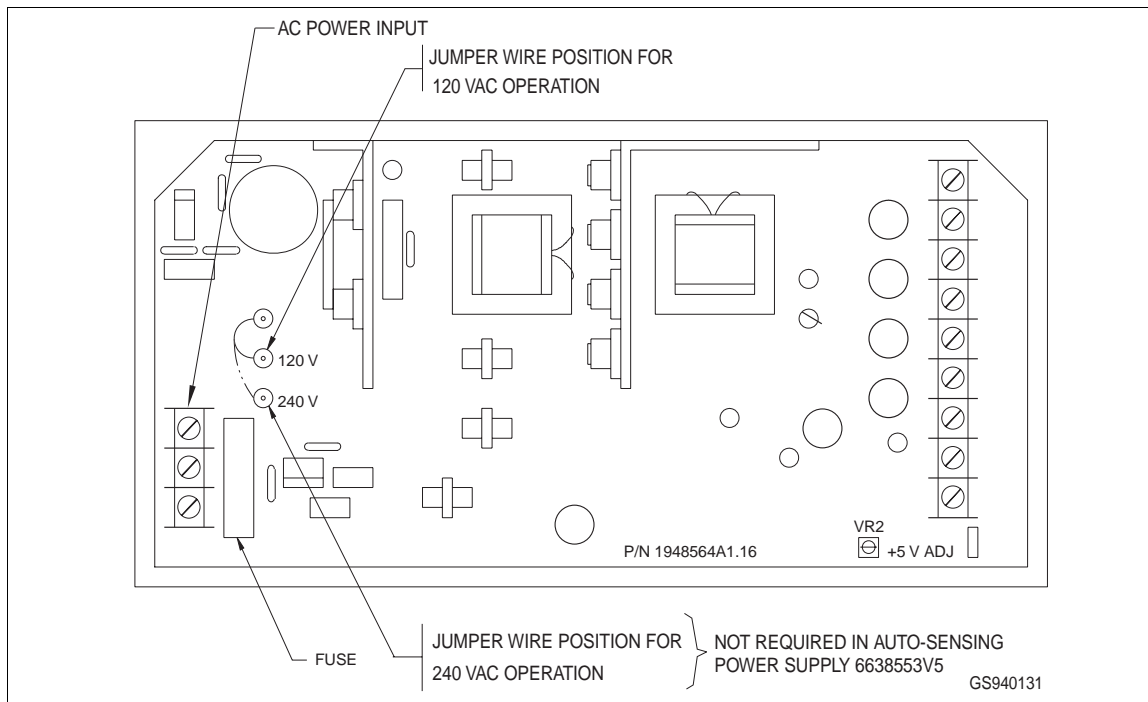
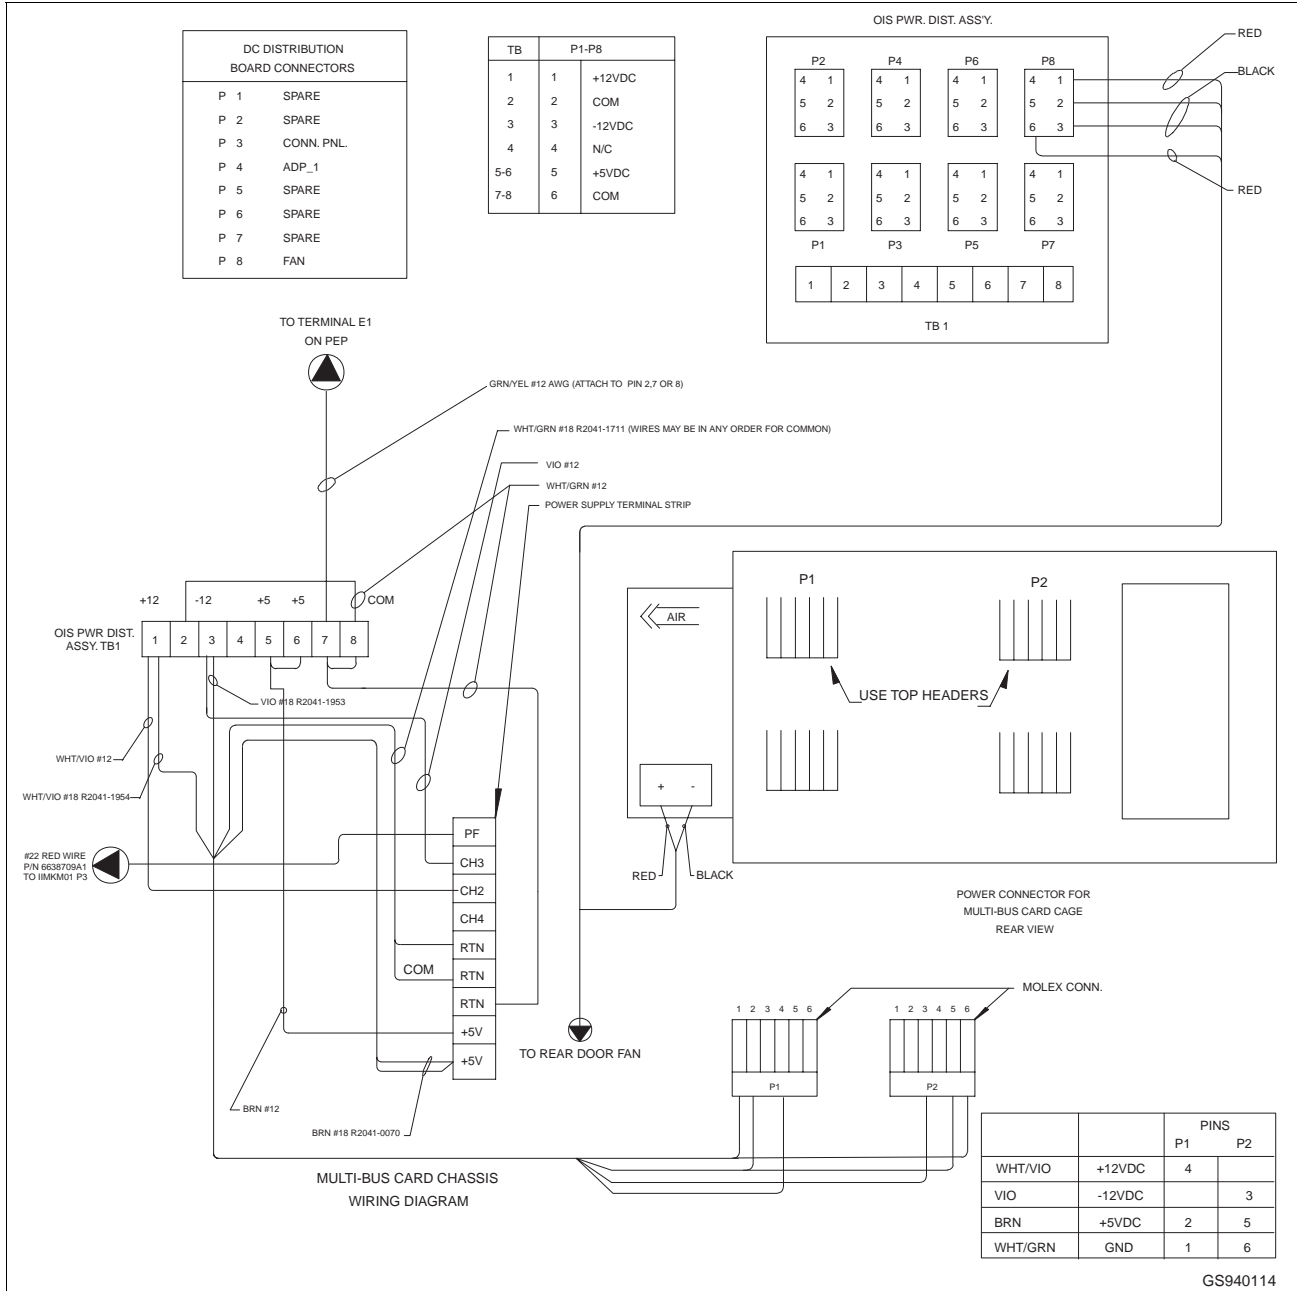
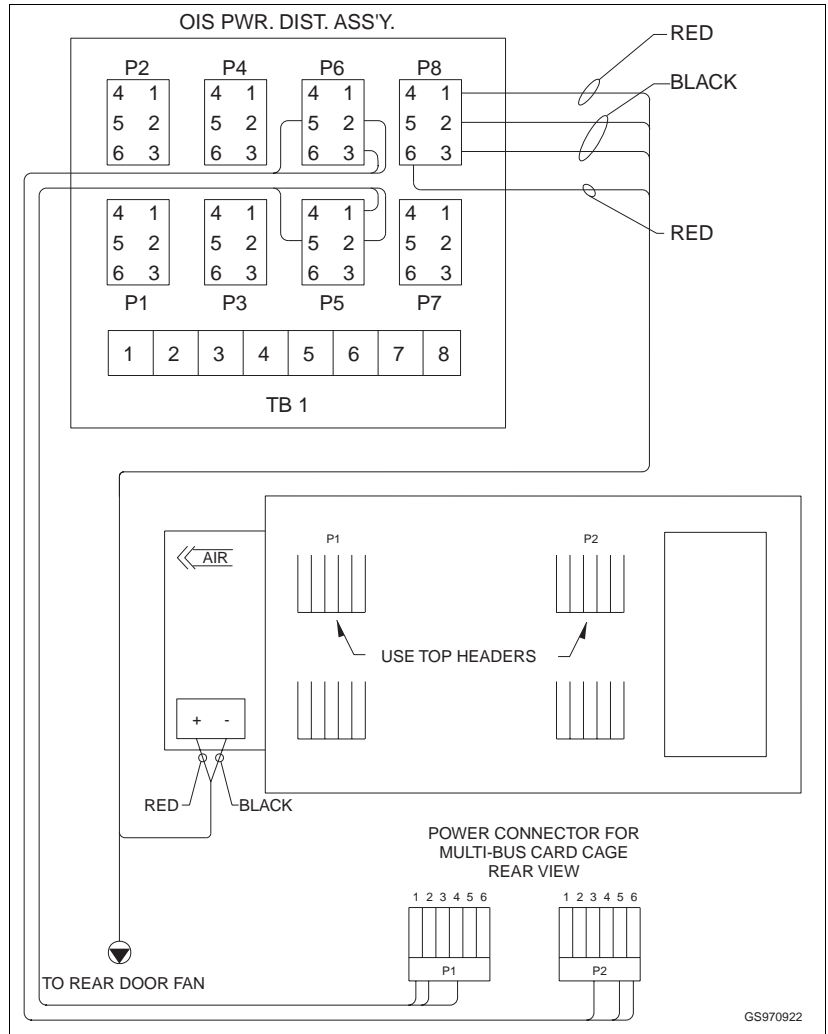

Figure 4-23. IIOIS12 Main Power Supply
Figure 4-25. IIOIS12 Power Connections, Power Supply P/N 6638553A6
Figure 4-26. IIOIS12 Power Connections, Power Supply P/N 6638553V5
To change the IIOIS12 to operate on 240-VAC, set the slide switch (if present) on the back of the computer power supply to the 240-VAC setting. Also change main power supply jumper and fuse for 240-VAC operation (Figure 4-23), if required.
NOTE: Figure 4-23 shows P/N 6638553A6. P/N 6638553V5 is similar, but does not have the jumper for 120 or 240-VAC. It is auto-sensing. AC power input terminals on 6638553V5 are connector pins.
The IIOIS12 130-watts main power supply (Figure 4-23) provides power to the console. Figures 4-25 and 4-26 show the connections from the main power supply to the DC distribution board and to the backplane of the card chassis.
1. The 6638553A6 power supply in the console operates on either 120 V or 240 V. When replacing this power supply, check to make sure it is set for the voltage rating of the console, per Figure 4-23. The fuse for 120-VAC should be rated for 5 Amps; 3 Amps for 240-VAC.
2. Figure 4-25 applies when DC Power Supply P/N 6638553A6 is installed in the console. Figure 4-26 applies when DC Power Supply P/N 6638553V5 is installed.